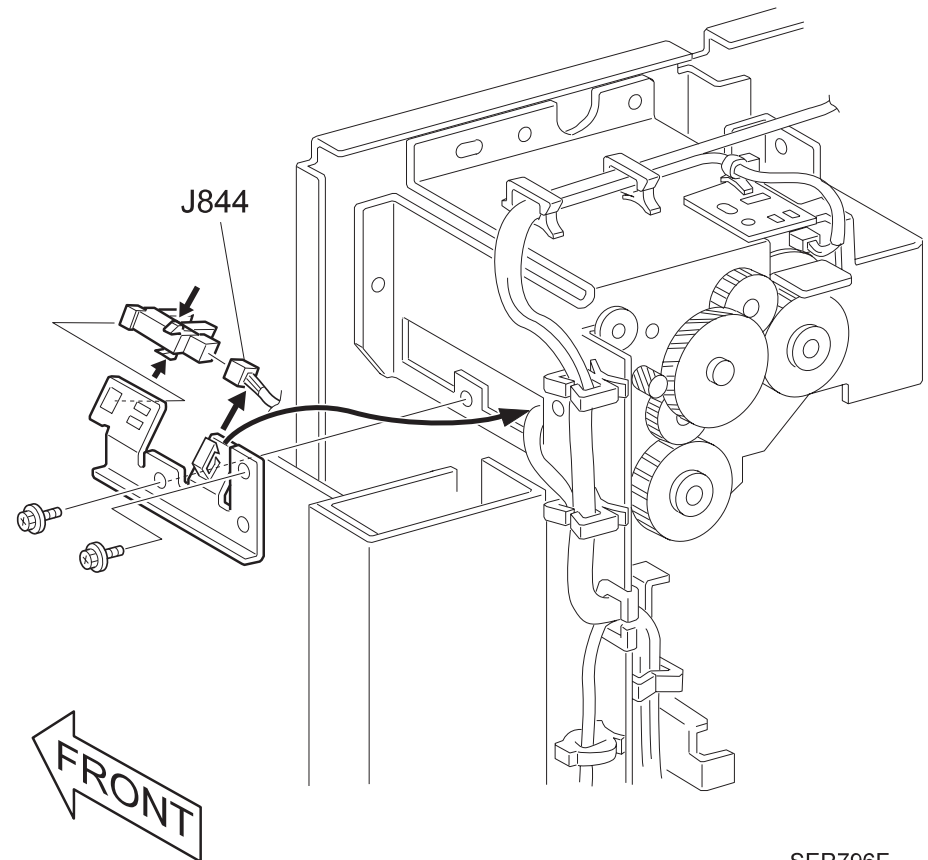

Figure 3-87. Offset Home Sensor
1. Place the Offset Home Sensor against the Eject Clamp Sensor Bracket as shown in the Figure 3-87 and push the latches into the bracket.